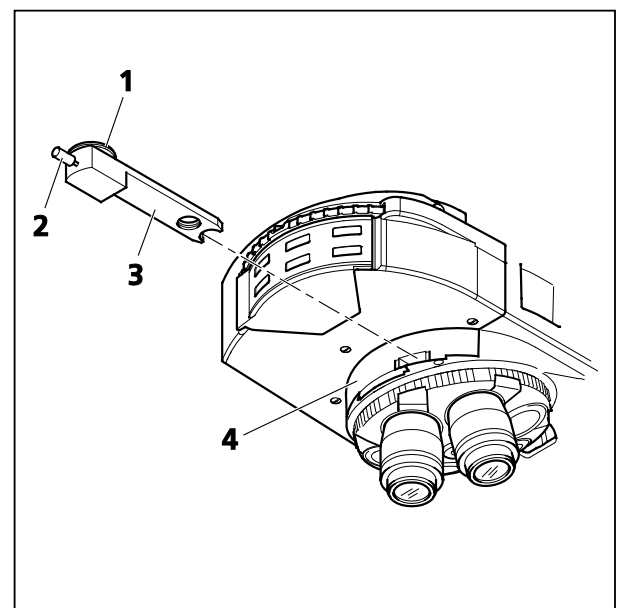
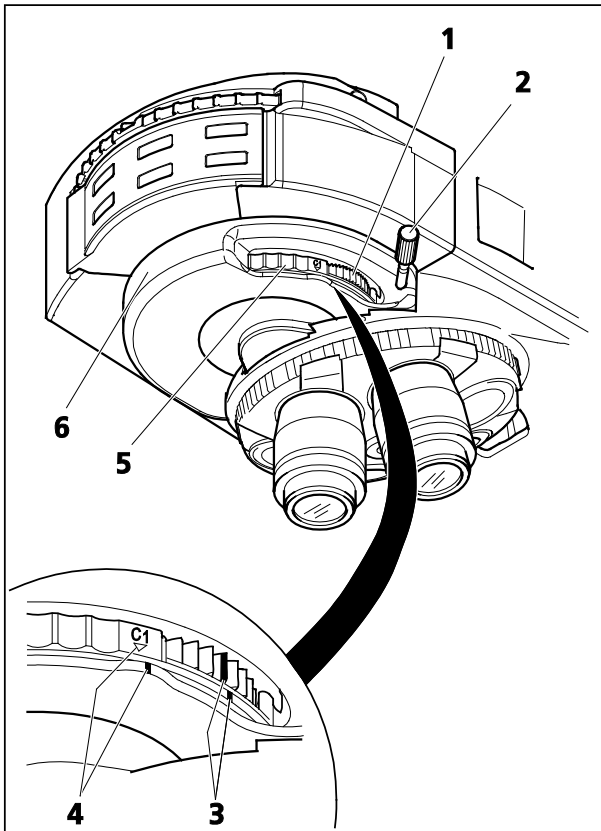
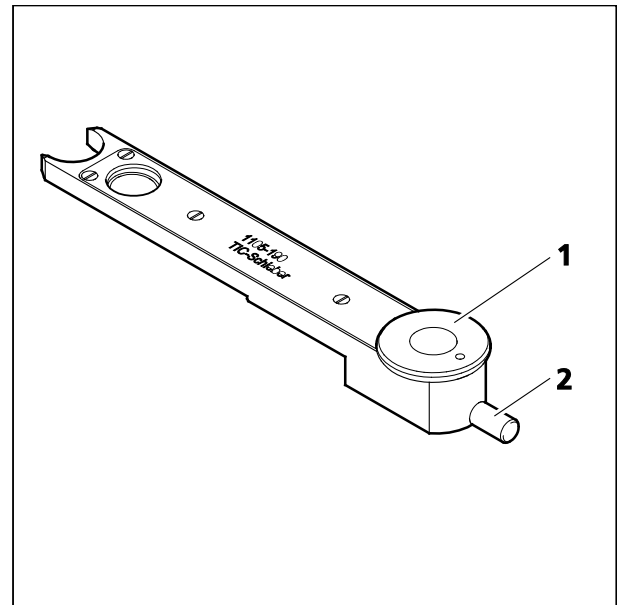
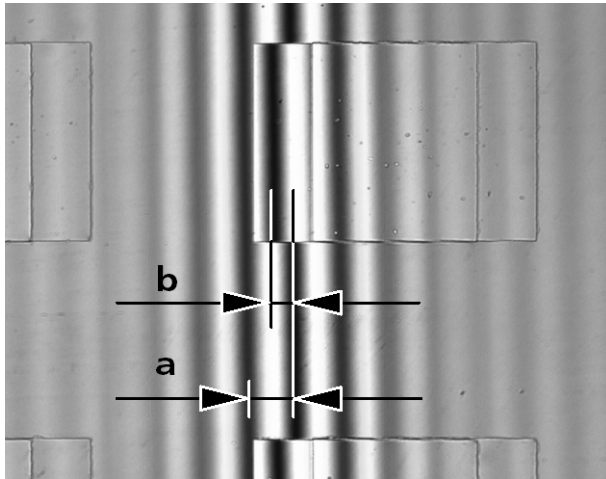

Fig. 206 6x20 compensator mount with 6x20 C-DIC slider
Fig. 207 4-position modulator turret
Fig. 209 6x20 TIC slider
Fig. 210 Interference fringe pattern
(4) Reflected-light C-DIC
- Push the C-DIC slider 6x20 (Fig. 206/3) into the 6x20 compensator mount (Fig. 206/4) or rotate the 4-position modulator turret (Fig. 206/6) using turret wheel (Fig. 206/5) to swing in the desired C-DIC position (**C1** or **C2**).
- Place the specimen on the stage, focus on it and rotate the control wheel (Fig. 206/1) on the CDIC slider 6x20 or the modulator turret (Fig. 207/1) until the specimen detail of interest is visible at maximum contrast. Rotating the stage is no longer necessary. When both line marks face each other (Fig. 207/3), this corresponds to the mid-position. 45° rotation in both directions is possible.
- The contrast can be optimized by turning the setscrew (Fig. 206/2) on the C-DIC slider or on the modulator turret (Fig. 207/2). When the triangular and line marks face each other (Fig. 207/3), this corresponds approximately to the extinction position (best contrast).
(2) Instrument equipment
(3) Setting reflected-light TIC
- Push the 6x20 TIC slider into the 6x20 compensator mount (Fig. 206/4) or rotate turret wheel (Fig. 207/5) of the 4position modulator turret (Fig. 206/6) into TIC-Position (**TIC**). Colored interference fringes appear in the field of view. Turn the setscrew (Fig. 209/2) of the TIC slider or the modulator turret to shift the black interference fringe until it appears to be in the center of the field of view.
- To select the structure to be measured, turn control wheel (Fig. 209/1) of the TIC slider or modulator turret until the interference fringe system is vertical to the splitting direction of the specimen (see Fig. 210). The interference fringes can be shifted by means of setscrew (Fig. 209/2) of the TIC slider or the modulator turret.
The values for a and b (see Fig. 210) are determined using the eyepiece reticle or the micrometer eyepiece.